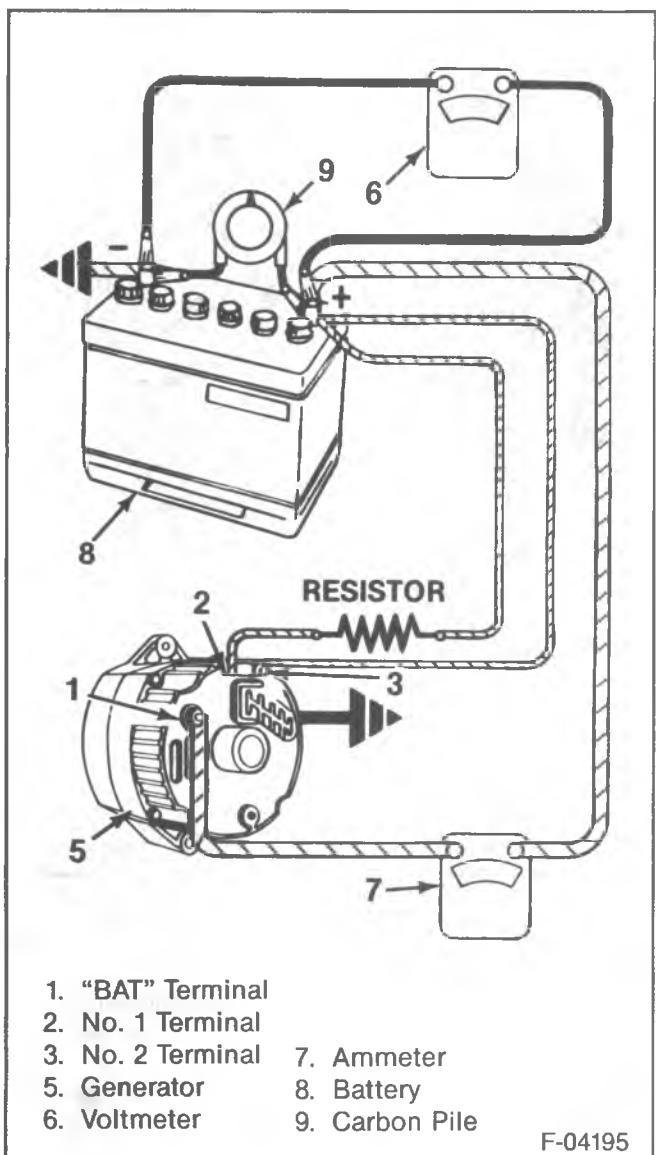

Figure 4—Generator Bench Check
1. Make the connections as shown in figure 4, except leave the carbon pile disconnected.